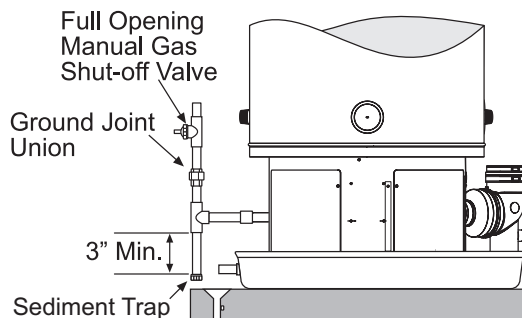

Figure 36
Follow the instructions below and reference Figure 36 for gas piping installation.
4. Install a ground union between the water heater and the manual shut-off valve. This is to allow easy servicing. See Figure 36 below.
- For test pressures exceeding 1/2 psi (3.45 kPa) disconnect the water heater and its Main Gas Shutoff Valve from the gas supply piping system during testing, see Figure 36 on page 30. The gas supply line must be capped when disconnected from the water heater.